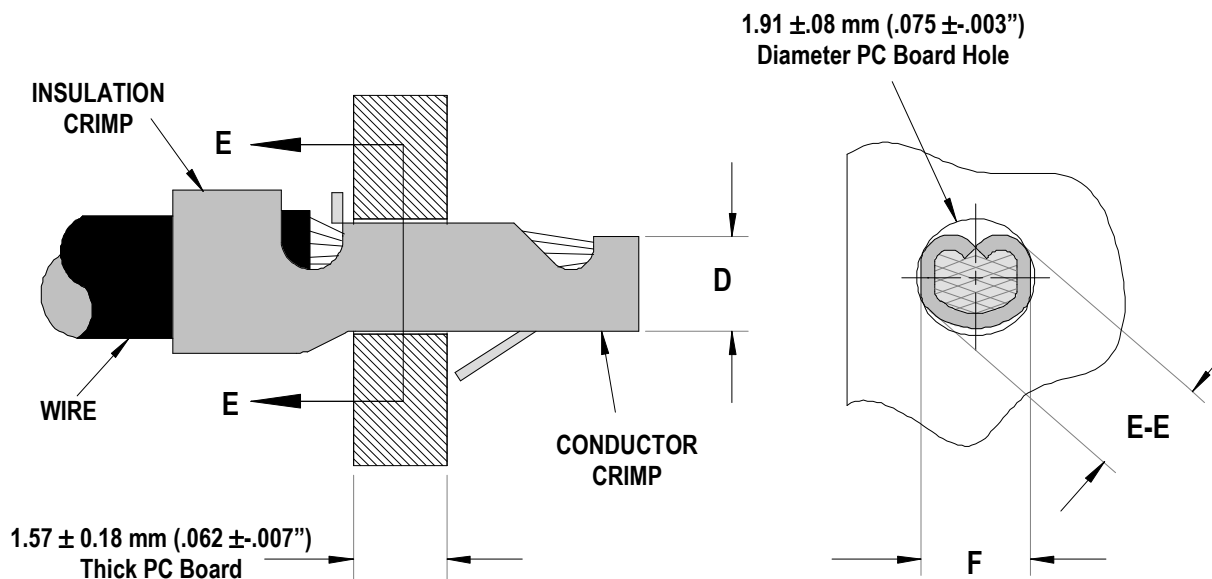

Figure 1
After crimping, the conductor profiles should measure the following (See Figure 1).
- 1 The Conductor crimp (D dimension in Figure 1) should be set at the maximum height to contain all wire strands, meet minimum pull, and fit into the PCB Hole. The insulation and barrel crimps are adjustable, by the cams (rings) on top of the Mini-Mac ram. The conductor crimp height is not adjustable. Shimming may be required of the conductor punch to optimize this for different wire types.